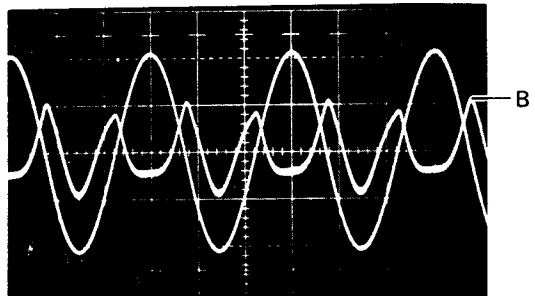

Fig. 7 Incorrect setting of R101 or R102
9. Repeat above procedure (steps 7 and 8) until a clean 3 kHz sine-wave is obtained in both procedures. As a result, distortion level shows the same level in both procedures and it should be minimal. See Fig. 7 and 8.